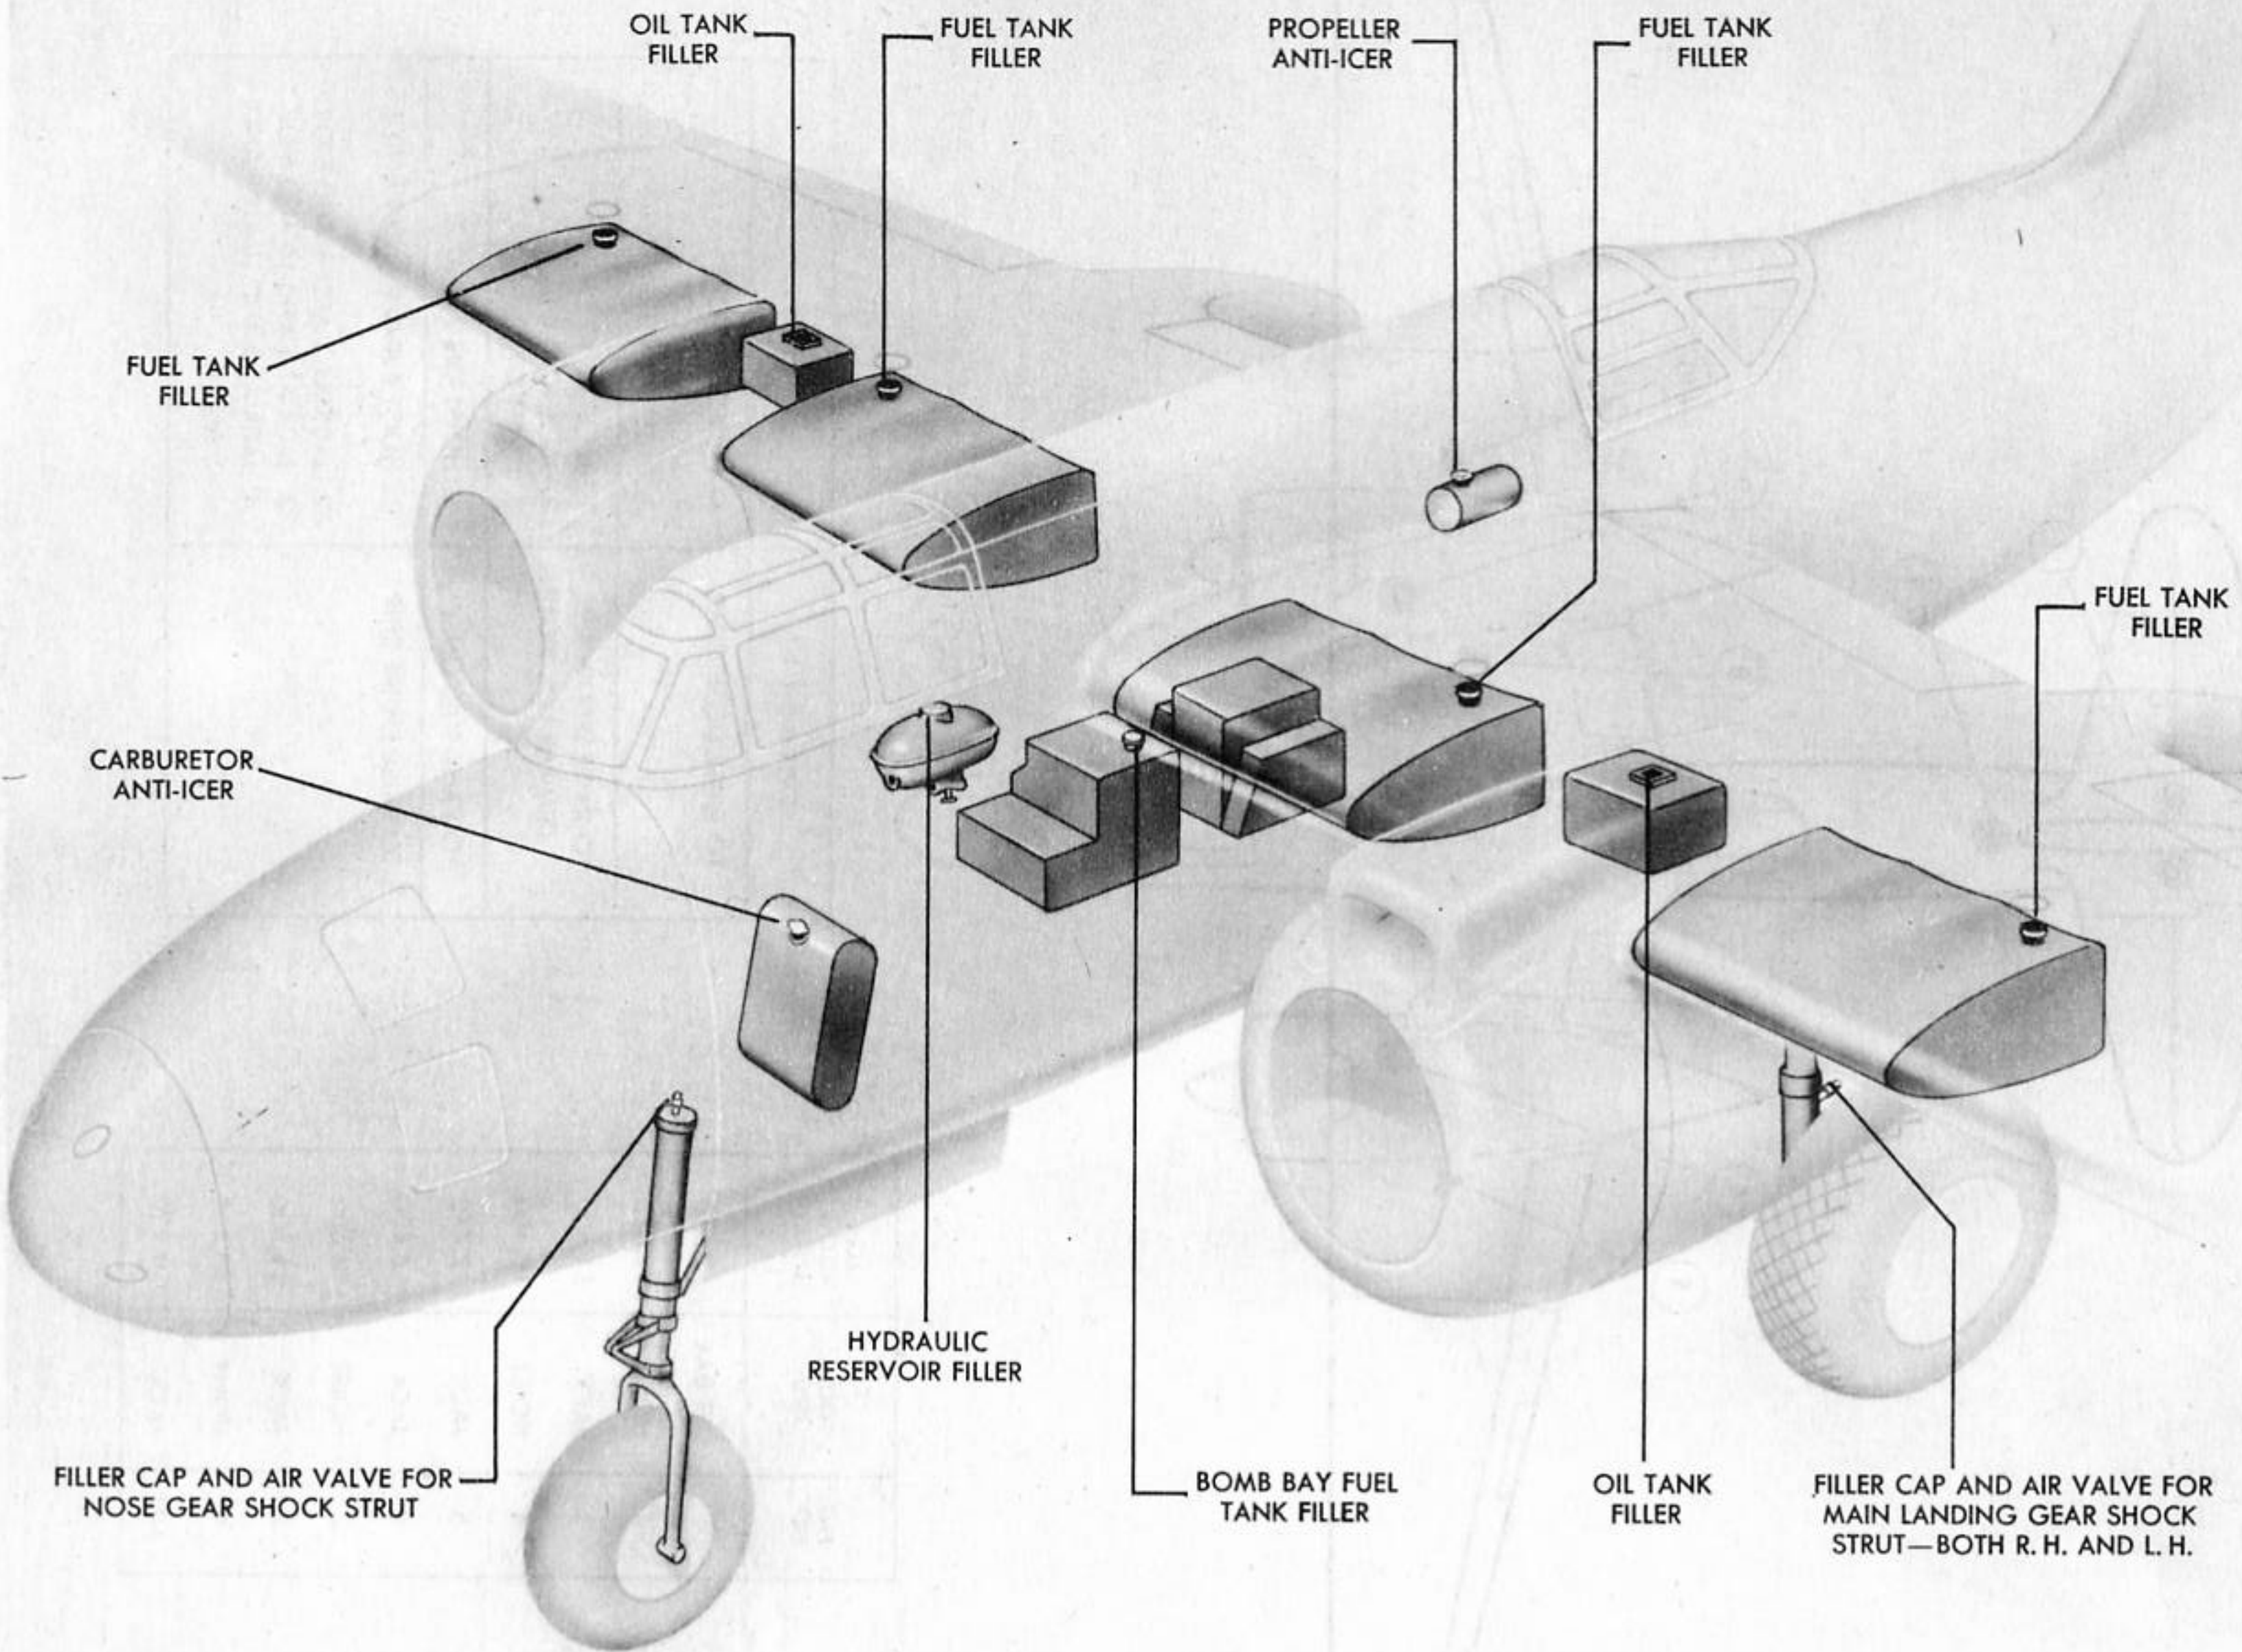

Figure 21 - FILLER CAP DIAGRAM
b. **LEVELING.** - The airplane may be transversely and longitudinally leveled by placing a spirit level on the three level lugs under pilot's walkway. A convenient means of adjusting the level of the airplane is to inflate and deflate landing gear shock strut. Do not press valve to deflate. Back out the valve body enough to allow air to escape. See figure 21 for location of valves.
(a) FILLING. (See figure 21.) - Each inner wing has two compartments (one on each side of the nacelle), which enclose self-sealing fuel containers. Each inboard fuel container has a capacity of 136 U.S. gallons (113 Imperial gallons); each outboard fuel container has a capacity of 64 U.S. gallons (53 Imperial gallons). The filler for the inboard fuel container is located on the upper surface of the wing just inboard of the nacelles and aft of the front shear web. Filler for the outboard fuel container is located on the upper surface of the wing just aft of the front shear web near the outer end of the inner wing. Two fuselage fuel
(a) FILLING. (See figure 21.) - A hopper type self-sealing oil container is installed in the compartment located between the main spar of the wing and the front shear web on the center line of each nacelle. Each oil container has a capacity of approximately 23 U.S. gallons (19 Imperial gallons) and three gallons additional capacity for foam space. A one-gallon reserve collects in a sump which is a part of the main outlet fitting on the bottom of each oil container. This gallon reserve is accessible only to the propeller feathering system and provides oil to feather the propeller if the engine is stopped for lack of oil. The cover plate for the filler neck is located on the inboard side of the carburetor air scoop fairing just aft of the front shear web.
(3) FILLING HYDRAULIC SYSTEM. (See figure 21.) - The fluid reservoir for the hydraulic system is in the forward end of the front bomb bay. Its filler neck is accessible through the cover plate at the right side of the fuselage just aft of the pilot's seat on the fuselage deck. The capacity of the reservoir alone is approximately 3.6 U.S. gallons (3 Imperial gallons) while the complete system contains
(4) FILLING PROPELLER ANTI-ICER. (See figure 21.) - The anti-icer fluid container is located in the upper left corner of the rear bomb bay compartment. It is reached through the enclosure just forward of the gunners' compartment. The fluid container has a capacity of 3 U.S. gallons (2-1/2 Imperial gallons). It should be kept filled with iso-propyl alcohol, AAF Specification 14082A. A fluid level measuring rod is located just aft of the tank vent line connections.
(5) FILLING AND DRAINING CARBURETOR ANTI-ICER. (See figure 21.) - A carburetor anti-icer fluid container of 10 U.S. gallons (8.3 Imperial gallons) capacity and a one-gallon expansion space is located in the aft end of the nose wheel tunnel. Fill the fluid container with alcohol through the filler located on the upper forward face of the container. To drain the fluid container, remove the lower portion of the alcohol filter situated in the line from the fluid container outlet to the pump inlet. A stick gage is provided on the top of the fluid container for measuring the quantity of fluid in the container.
(6) TIRE INFLATION. - For hard runway operation, inflate the main landing gear tires to the deflection mark. This is approximately 42 pounds per square inch. Inflate the nose wheel tire to 54 pounds per square inch. Use a standard tire gage for checking pressures. Where the runway is soft enough to leave a track, reduce pressures by six pounds per square inch.
(7) INFLATING SHOCK STRUTS. - Landing gear shock struts are inflated through a valve located near the tops of the struts. (See figure 21.) Inflate strut until following dimensions are obtained with airplane loaded for take-off: